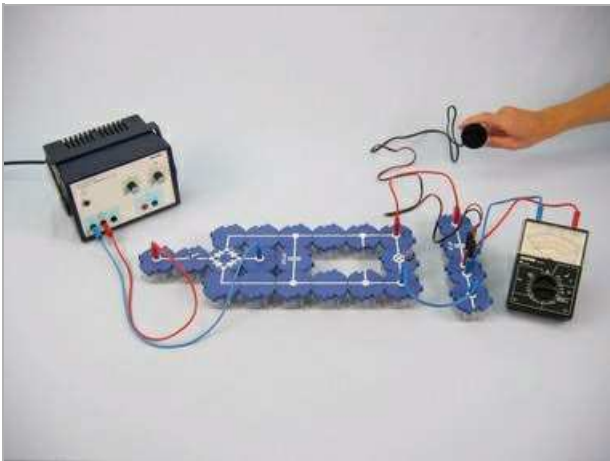

Fig. 3
- Add capacitor C_1 to the circuit, as shown in Fig. 3. Note the volume in headphones and the brightness of the filament lamp.